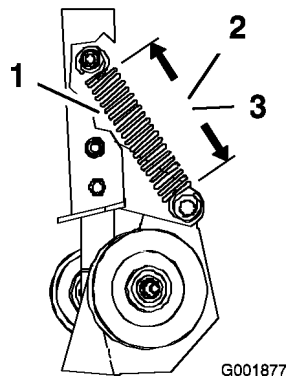
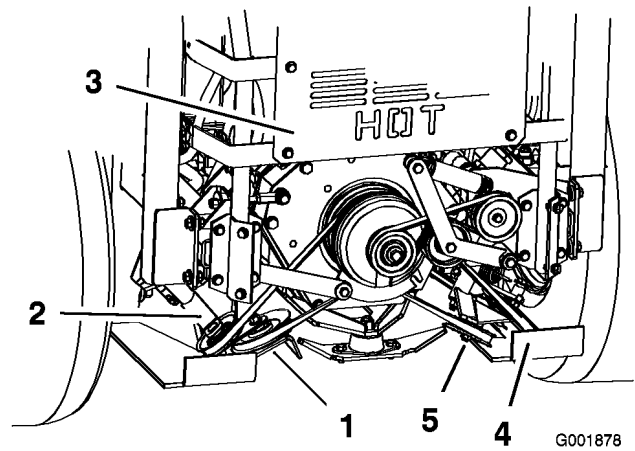

Figure 58
Figure 59
- Measure the length of the spring. Check to make sure the coils of the spring on the spring-loaded idler pulley measures as listed below (Figure 58 and Figure 59).
- Left spring measurement: $5\text{-}3/4 \pm 1/8$ inch (14.6 ± 0.3 cm) (Figure 58).
- Right spring measurement: $5\text{-}1/2 \pm 1/8$ inch (14.0 ± 0.3 cm) (Figure 58).
- If the spring does not have the correct measurement, loosen the nut holding the adjustable idler pulley so it can move up and down in the slot (Figure 59).
- Relieve the pressure on the spring-loaded idler pulley (Figure 59).
- Position the adjustable pulley lower in the slot and tighten the nut (Figure 59).
- Check to make sure the coils of the spring on the spring-loaded idler pulley have the correct measurement (Figure 58).